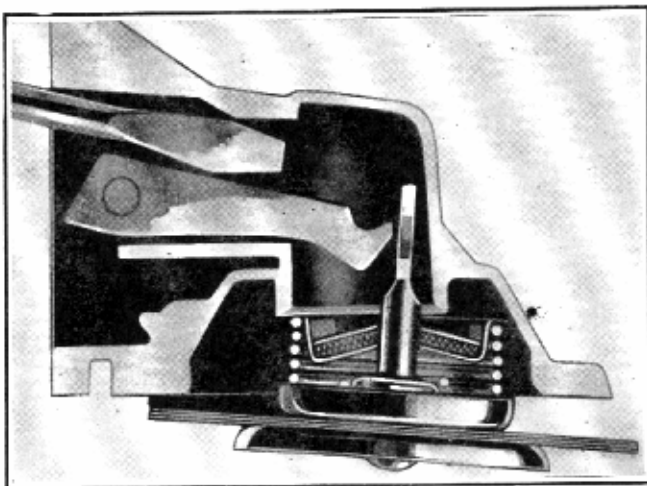

Fig. 18—Method of Assembling Diaphragm Assembly to Link
2. Raise the fuel pump link with a screw driver, Fig. 18, install the diaphragm spring and hook the diaphragm pull rod over the end of the link.